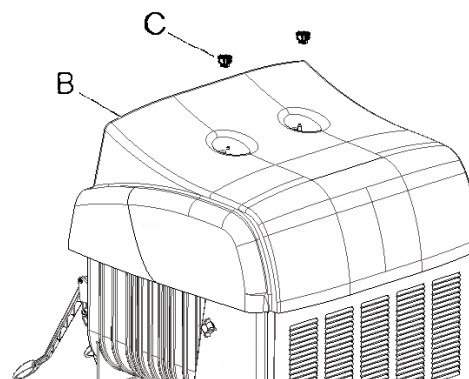

Fig. 15
- To vary the consistency of the ice slush, turn the knob as shown in fig. 15. Turning the knob counter-clockwise will increase viscosity (make the product denser). Turning the knob clockwise will decrease viscosity (make the product less dense).